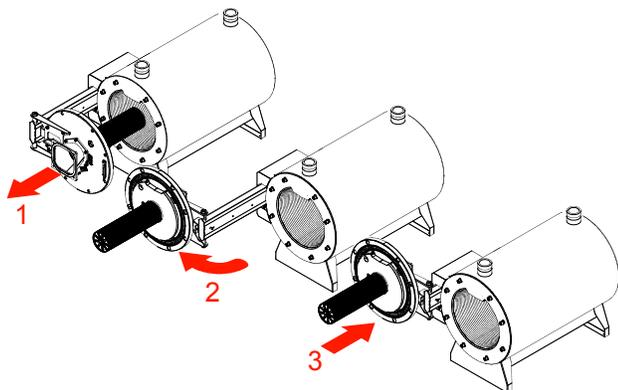

Figure 29: Burner Door Opening
- d. This unit is equipped with a sliding mechanism shown in Figure 29. Position (1) the burner assembly slides out of the combustion chamber, (2) rotate away from the combustion chamber and (3) sliding back to allow full access to the combustion chamber for inspection and service.